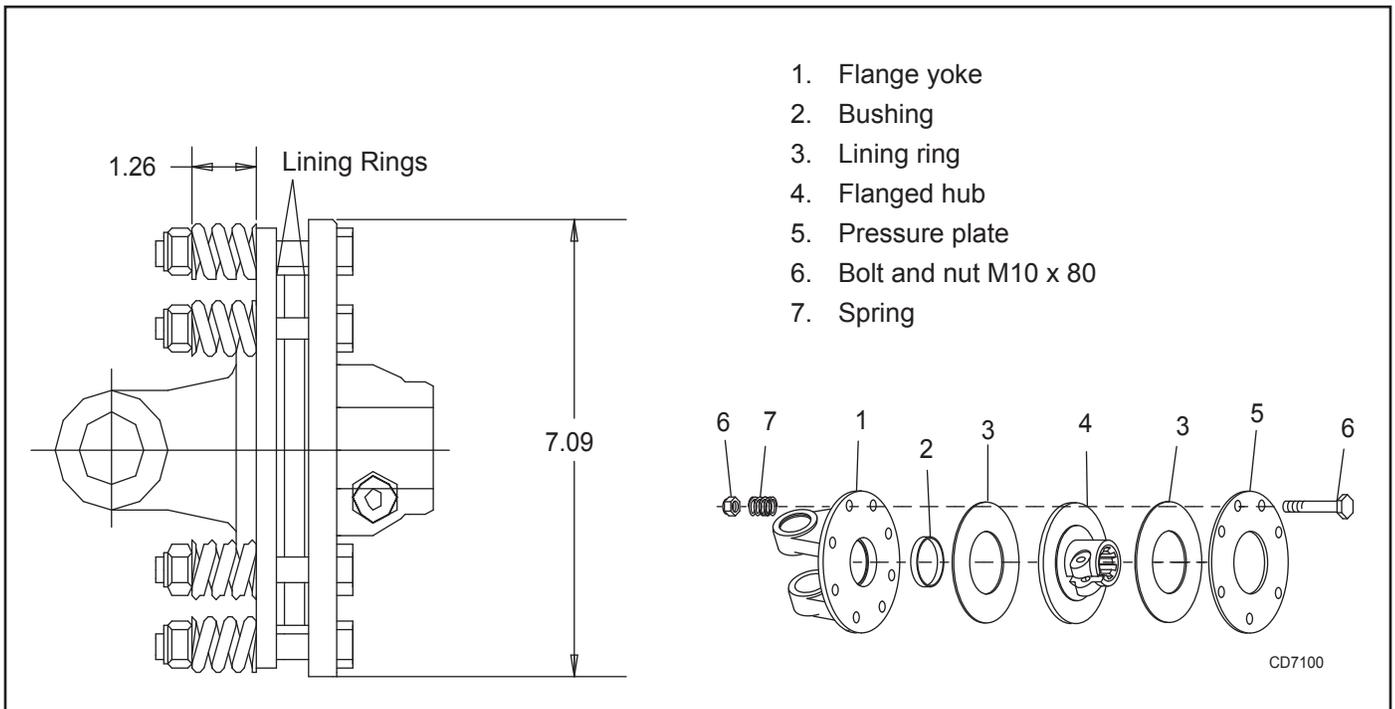

Figure 7. Slip Clutch Assembly
2. Loosen eight 10 mm cap screws (6) to remove all tension from pressure plate (5). Springs should rotate freely.
3. Place a mark on edge of lining rings (3).
4. Hold flanged hub (4) solid and rotate driveline to make sure clutch slips. Check marks on edge of lining rings to see if they have moved.
5. If clutch does not slip freely, disassemble and clean surface of flanged hub (4), flange yoke (1), and pressure plate (5).
7. Tighten springs (7) until they are compressed to the 1.26 inches shown in Figure 7.
8. If a clutch continues to slip when the springs are compressed to the 1.26 inch dimension, check lining rings (3) for excessive wear. Rings are 1/8" when new. Replace rings after 1/32" wear to ensure proper operation.